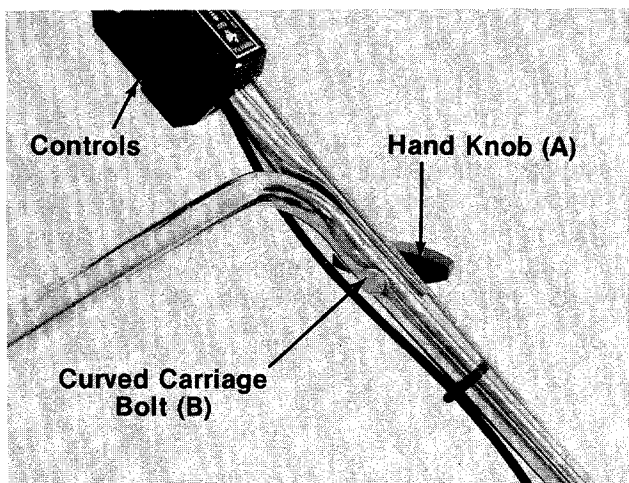

FIGURE 4.
- Place upper handle in position over lower handle. Controls should be on the **left** side of the handle. Blade brake/clutch control wire must be assembled so that it is **behind** the handle as shown in figure 4.
Secure with two carriage bolts (B) and hand knobs (A) as shown in figure 4. The knobs can be either to the inside or outside of the handle.